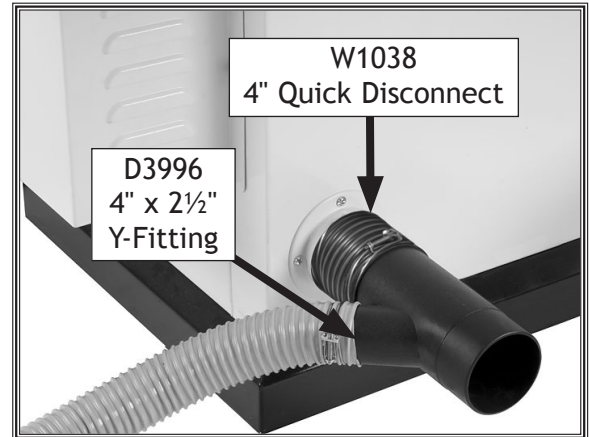

Figure 42. 4" dust port connected.
1. Secure a 4" dust hose to the dust port located under the saw table (Figure 42).
Note: For fast and easy connection to a dust collection system, we recommend using the Model W1038 4" Quick Disconnect fitting, as shown in Figure 42.